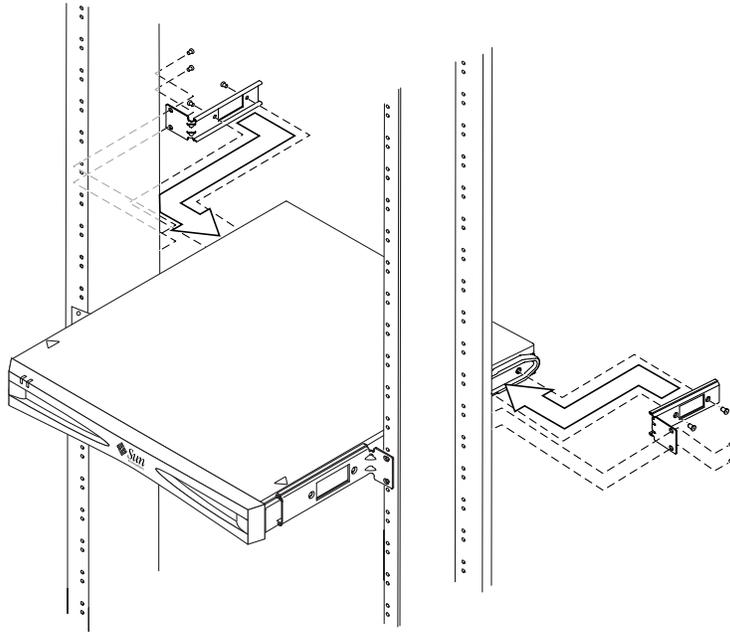

FIGURE 2-16 The PCI System Expander Installed in a Two-Post Relay Rack
5. Secure the rear brackets to the rack in the appropriate place, as shown in FIGURE 2-16.